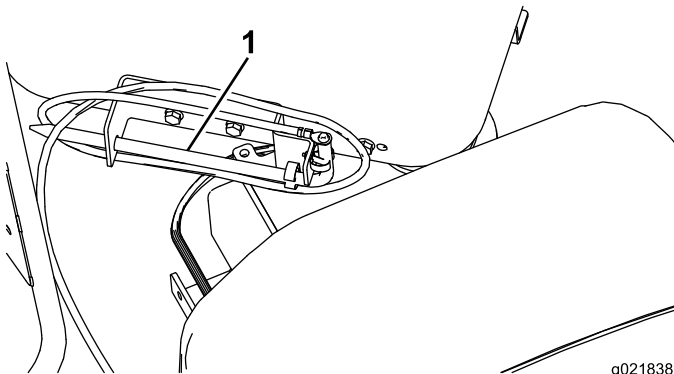

Figure 43
1. Remove the grounding stake from the holder on the side of the operator platform (Figure 43).
2. Move the drill carriage fully down the drill frame and spray the spindle threads with thread joint compound, then return the drill carriage to the upper end of the frame (Figure 43).